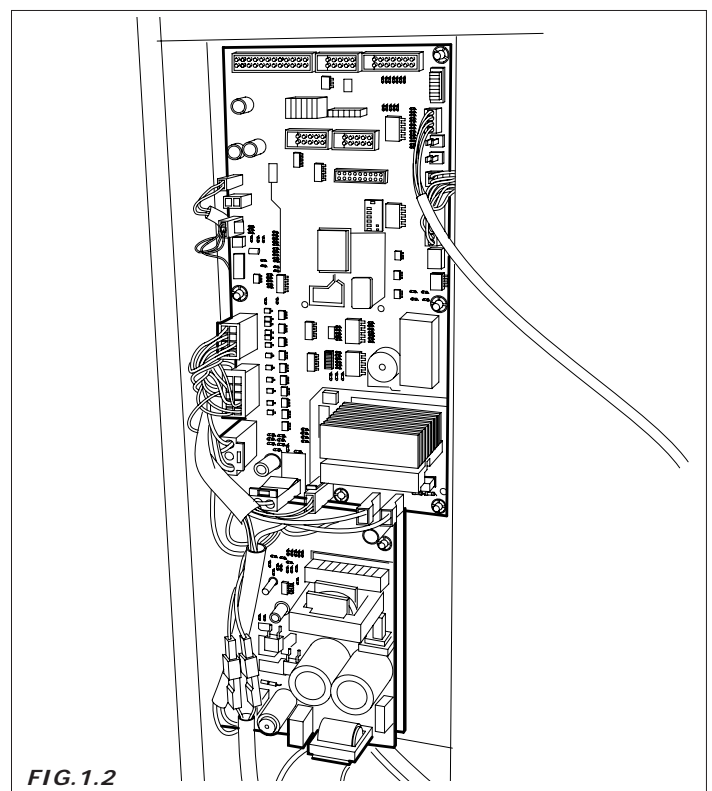

FIG. 1.2
- The version of the programme contained in the microprocessor (adhesive label applied to the component assembled on the Master board) (Fig. 1.2).